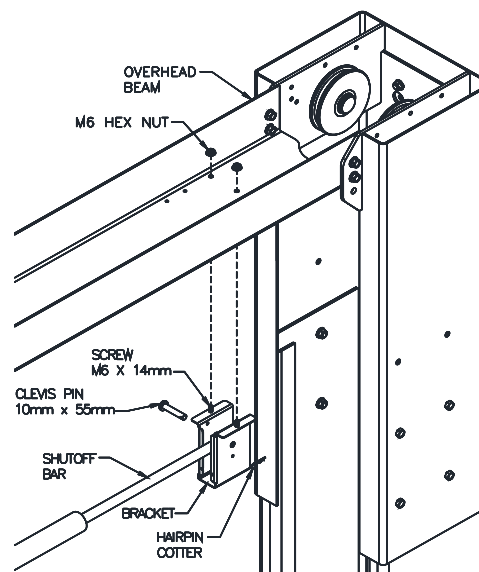

Fig. 8 – Overhead Bracket Idler Side
- 19) Install the Idler Bracket to the Overhead Beam using the rear set of holes on the Idler Side of the lift. Fig. 8. **Note the orientation of the Idler**